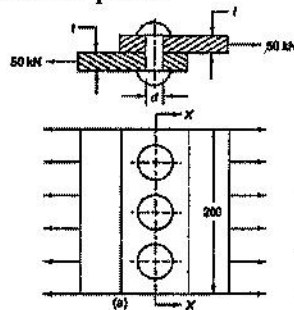

Fig. 1
4. (a) Two plates, Subjected to a tensile force of 50 kN, are fixed together by means of three rivets as shown in Fig 1. The plates and rivets are made of plain carbon steel 10C4 with tensile yield strength of 300 N/mm2. The yield strength in shear is 50% of the tensile yield strength, and the factor of safety is 2.5. Neglect the stress concentration, determine: